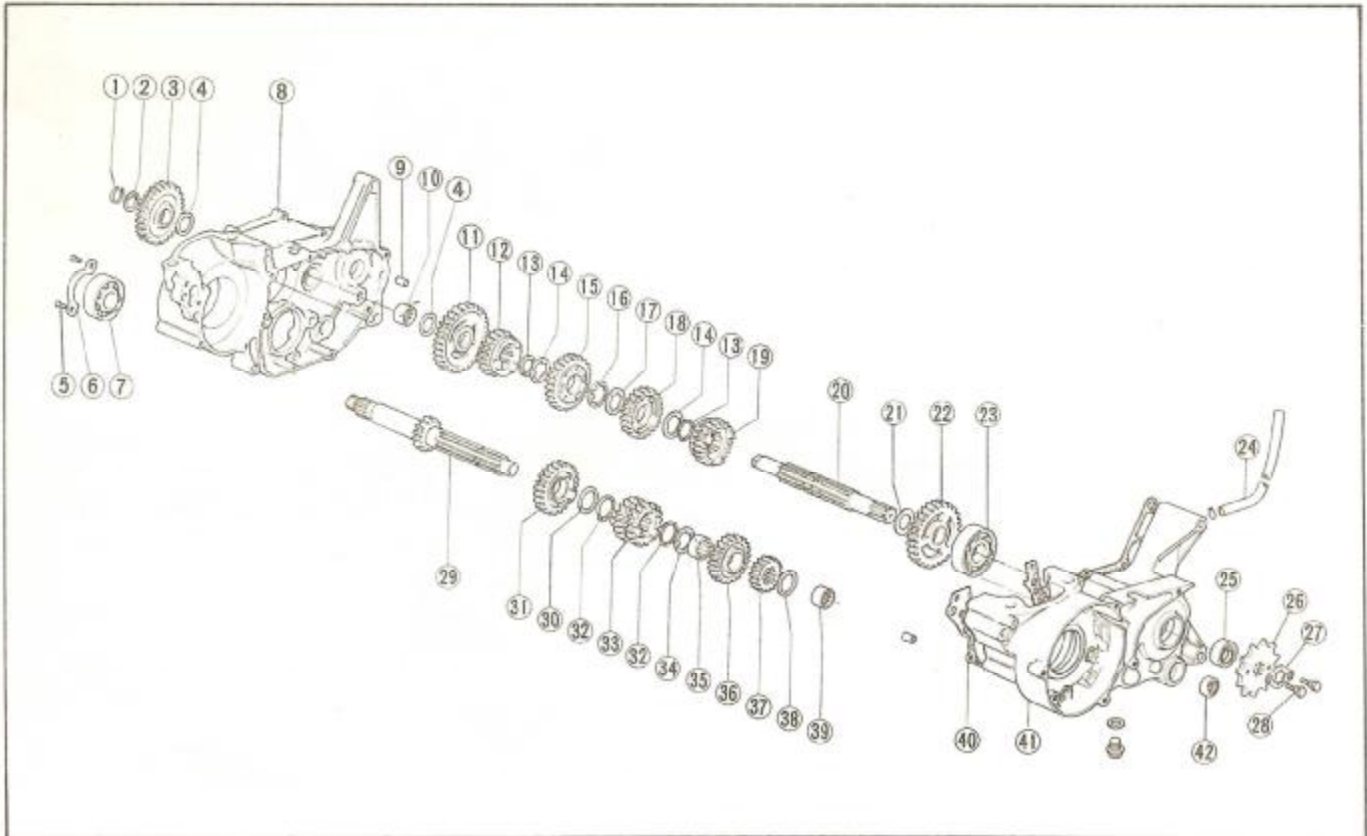

Fig. 3-31
When installing the spline collar (35) (Fig. 3-31) to the main shaft, align the oil holes.